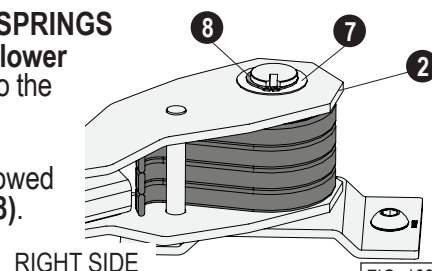

FIG. 103
- Slide the second **lower arm plate (2)** onto the pivot pin.
- Install another **bushing (7)**, followed by a **snap ring (8)**. See Figure 103.